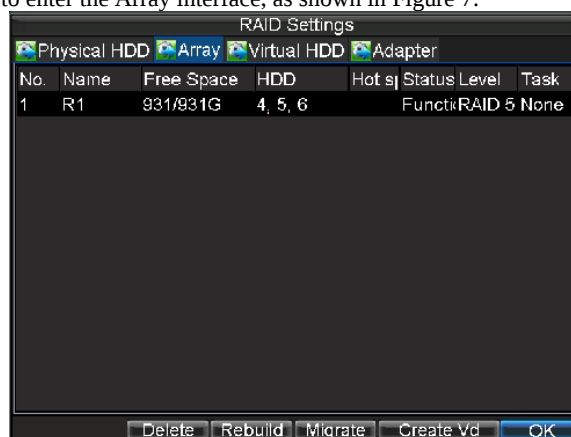

Figure 7. Array List
2. Select the **Array** tab to enter the Array interface, as shown in Figure 7.